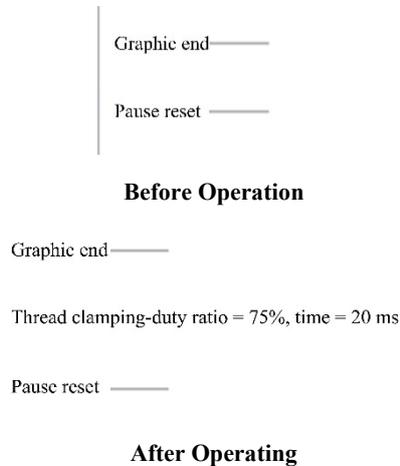

Fig. 5.10.12a Schematic Diagram of the Operation of the Stitch Head End State Command Set
③ After adding all commands, if there are any that need to be deleted or modified, just double-click the command segment to change the parameters and the parameter setting box will pop up. To delete a command, just select the command segment and click the Delete button. To move the command segment, just select the command and click the "↑" and "↓" buttons to move the command segment up/down.
④ Finally, click OK to save this default command set. After clicking the command processing, these commands will be added by default at the end of the stitch head (head 1) graphics. The operation diagram is shown in Fig. 5.10.12a below.